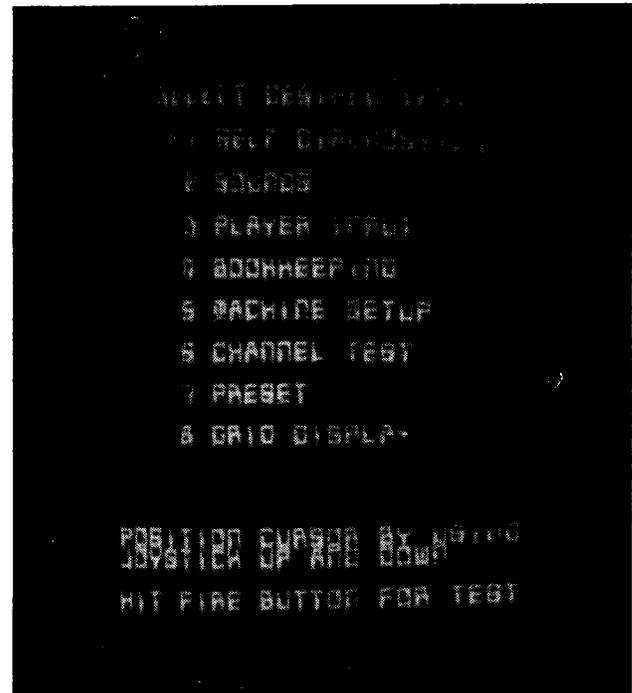

Figure 3-2 Self-Test—Menu
The Self-Test mode has eight (8) major categories as illustrated by Figure 3-2.